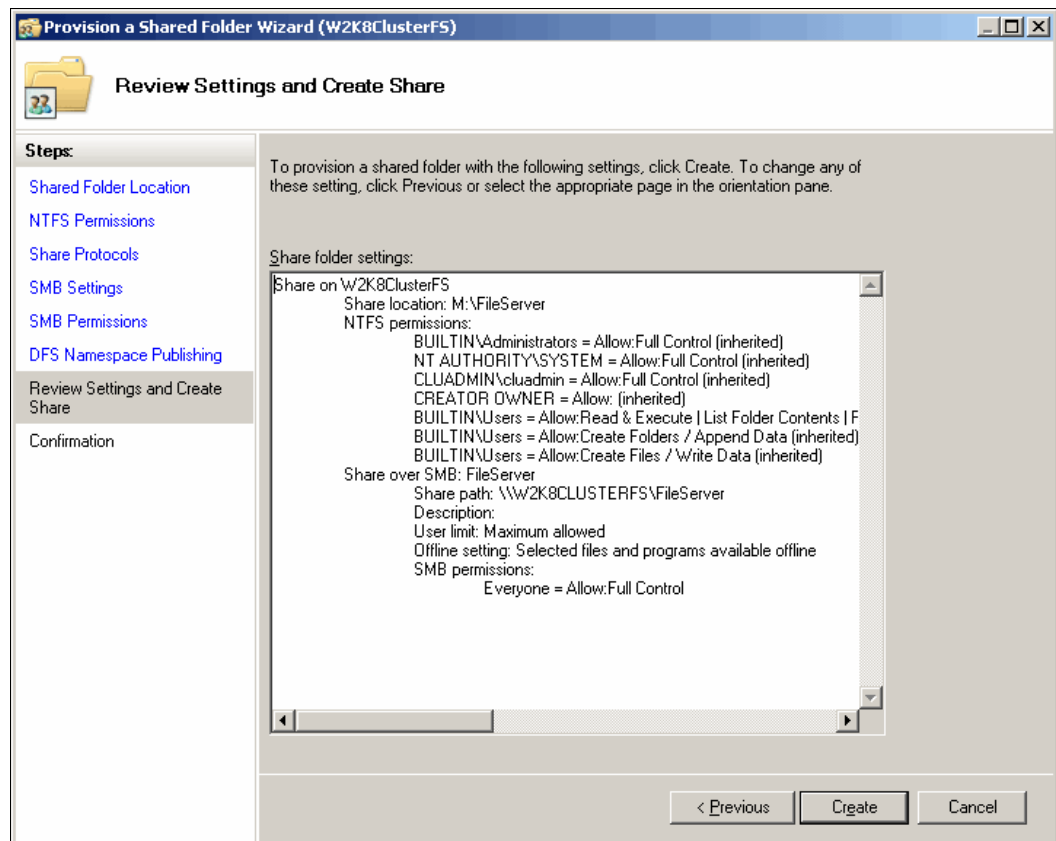

Figure 19-35 Create Share
15. Review the settings and click **Create** to create the share as shown in Figure 19-35 on page 584.